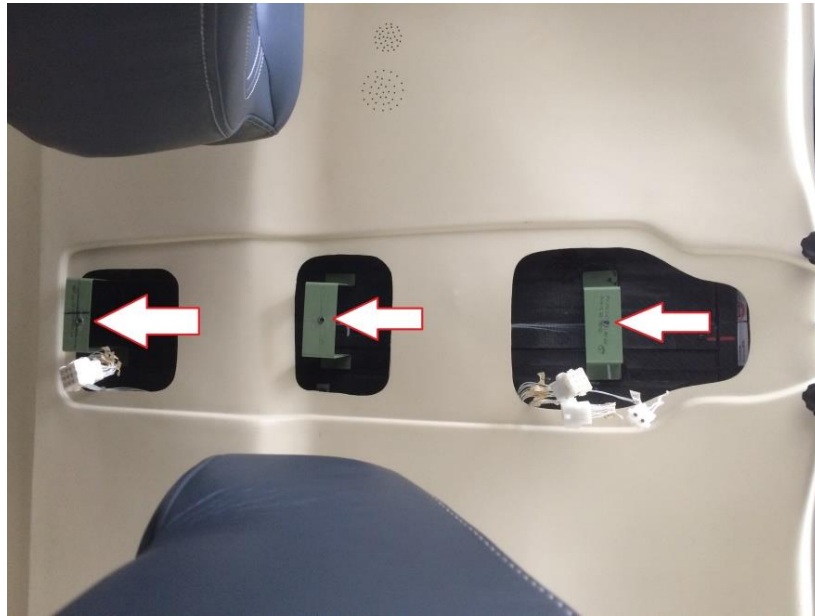

Figure 34 - Existing Attachment Points
- 4) Align the AC-02073 Forward Duct Hanger with the other Duct Hangers. Mark the mounting holes where the overhead console was attached and match drill holes into the Forward Duct Hanger. See Figure 34.